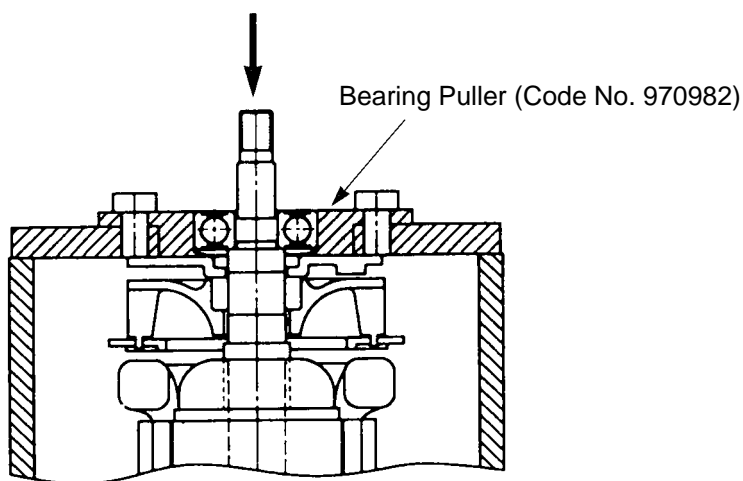

Fig. 5
8. For the models indicated under Fig. 5, the Ball Bearing [10] <10> can be removed from the Armature [14] <14> by utilizing a J-204 Bearing Puller (special repair tool, Code No. 970982) as illustrated. After the Ball Bearing has been removed, the Bearing Cover [13] <13> can be easily taken off.